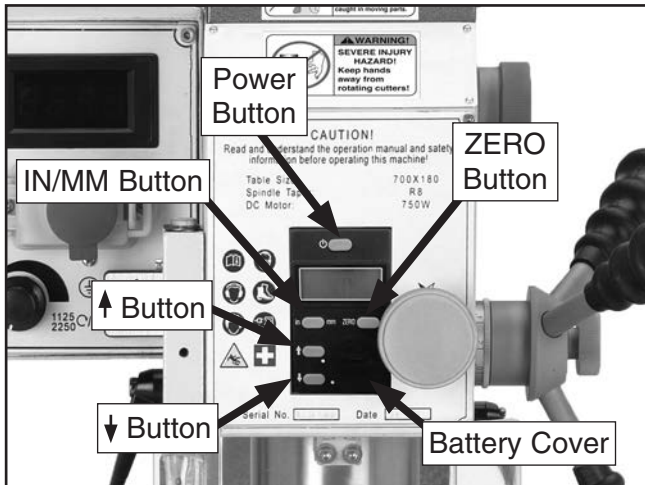

Figure 21. Digital readout controls.
The digital readout unit gives a precise reading of the vertical positioning of the quill. It can be zeroed at any position and manually increased or decreased independent of quill position when the operation requires it (see **Figure 21**).
1. Press the power button (see **Figure 21**). A reading should appear on the display.